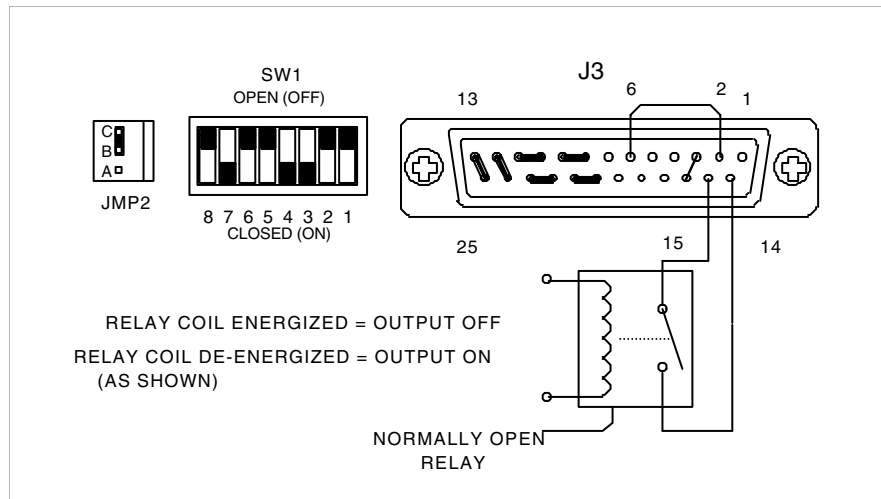
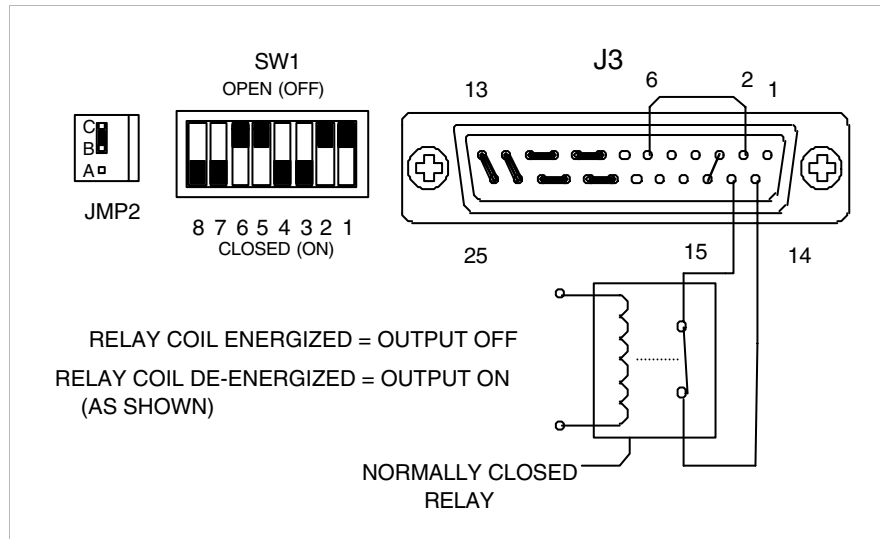

Figure 3.19 Using Shutdown with Contact Closure of a Normally OPEN Relay (Positive Logic)
Figure 3.22 Using Shutdown with Contact Closure of a CLOSED Relay (Negative Logic)
1. Turn off the power supply and disconnect the AC power source. Allow five (5) minutes to elapse to dissipate stored energy before making connections or resetting switches. Refer to “Configuring for Remote Programming, Sensing, and Monitoring” on page 48 for instructions for resetting switches or making J3 connections.
2. Connect one side of the external relay to pin 15 (+15Vdc Auxiliary Output) on connector J3. Connect the other side of the relay to pin 14 (TTL Shutdown Input). Also connect pin 2 (Shutdown Return) to pin 6 (Auxiliary Supply Ground). See Figure 3.19 through Figure 3.22.